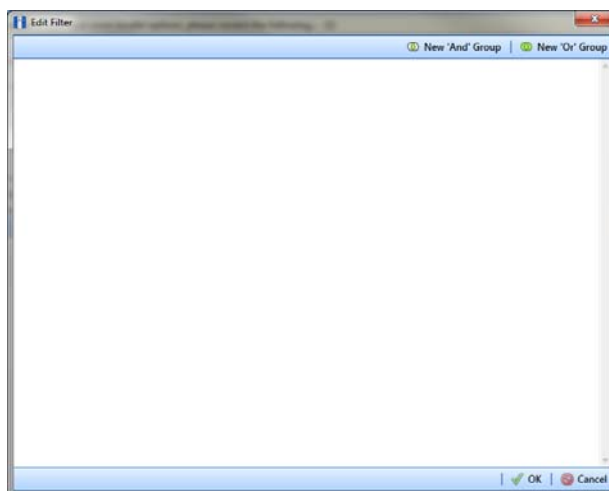

Figure 9-31. Edit Filter
- 7 If you want to set up one or more filters that apply to *all* data items in the definition file, click  **Edit** in the *Filters* group box to open the *Edit Filter* dialog box (Figure 9-31).